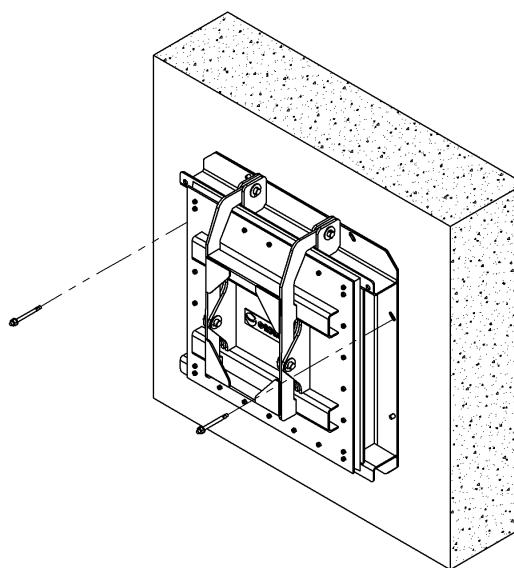

Figure 1
- Drill and install an anchor bolt on each side of the flap gate. After installing the first anchor bolt, and prior to drilling the hole on the other side, make sure the frame is perfectly leveled (see Figure 1).